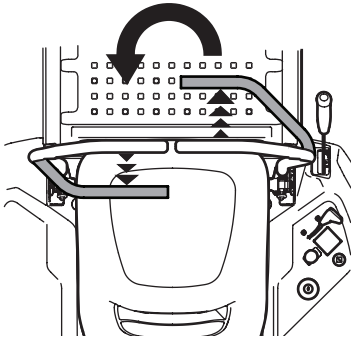

Figure 28
3. To turn counter-clockwise, move the lapbar right drive control lever forward while simultaneously moving the left lapbar drive control lever rearward. See Figure 28.